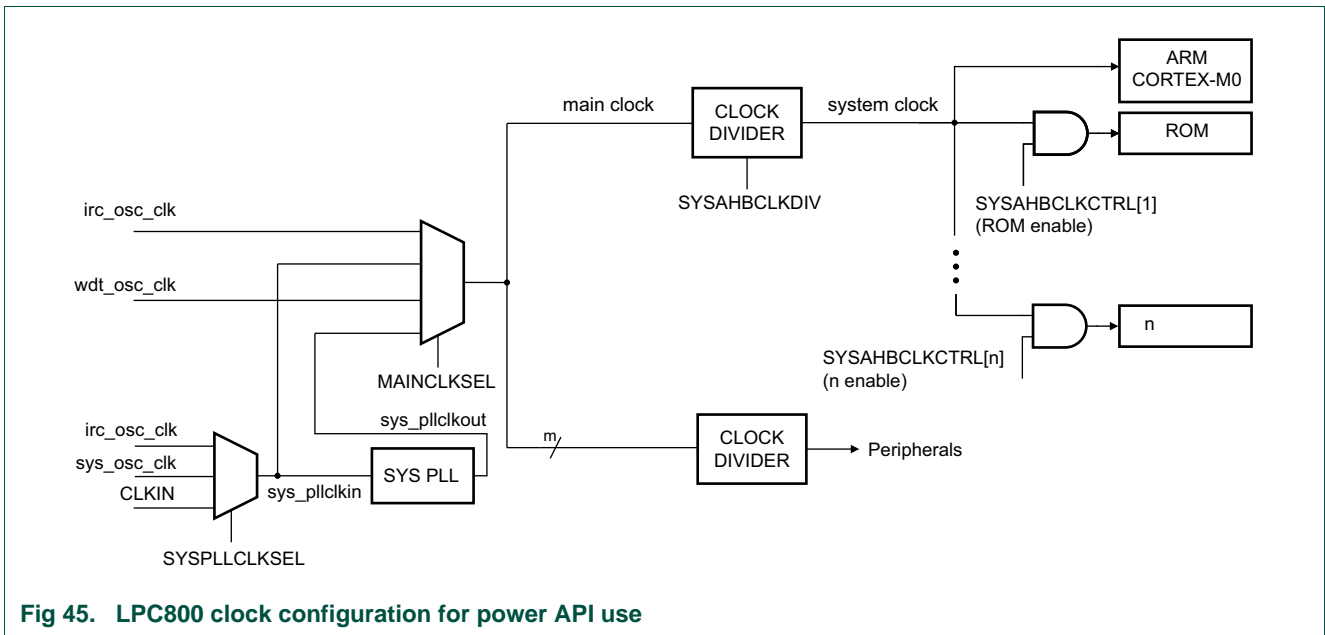

Fig 45. LPC800 clock configuration for power API use
For a simplified clock configuration scheme see Figure 45. For more details see Figure 3.
*set\_pll* configures a setup in which the main clock does not exceed 30 MHz (see Figure 45). It easily finds a solution when the ratio between the expected system clock and the system PLL input frequency is an integer value, but it can also find solutions in other cases.
**Remark:** Use the *set\_power* routine with SYSAHBCLKDIV = 1 (System clock divider register, see Table 17 and Figure 45).